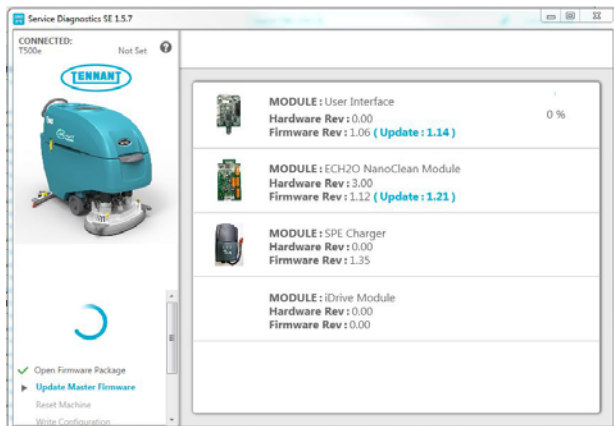

Fig. 9
8. The application will begin the process of configuring the new control board. The following screen will appear (Figure 9). During this process, the application may prompt for key cycles. Turn off key, wait a few seconds and turn key back on to continue. The process will also automatically update any machine firmware as needed.